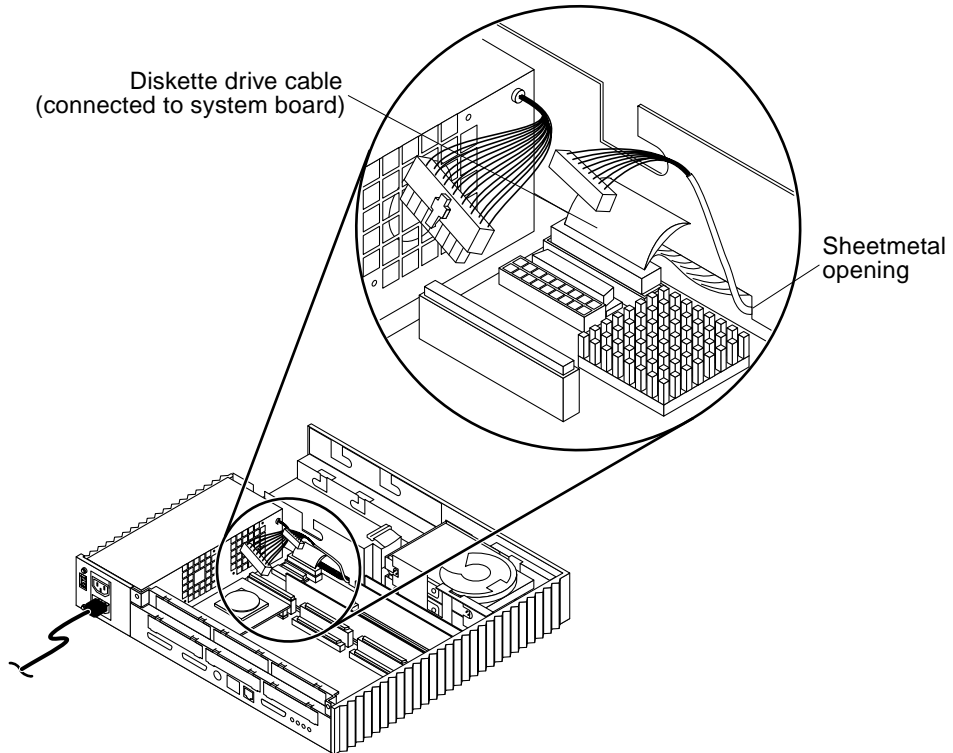

FIGURE 8-45 Pulling the Diskette Drive Cable Through the Drive Bracket Opening
7. Carefully pull the end of the diskette drive cable that connects to the system board through the sheetmetal opening into the drive bracket area (FIGURE 8-45).
1. **Work the end of the diskette drive cable that connects to the system board through the sheetmetal opening in the drive bracket and connect it to the system board** (FIGURE 8-45).